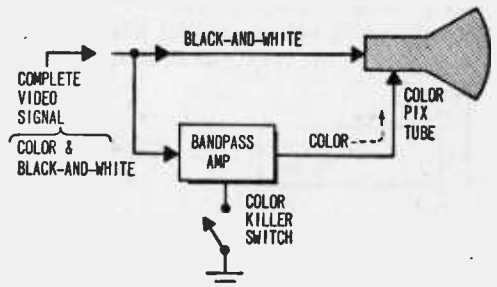

Fig. 1. Basic color killer turns color circuits on/off at appropriate time.
**The Human Killer.** Early color receivers required the viewer to be the color killer. The viewer selected a channel and visually decided whether it transmitted in color. If not, he flipped a switch and disabled any circuits likely to feed false color to the screen (Fig. 1). Though that block diagram is greatly simplified, it illustrates the point. All frequencies which make up the video signal—black-and-white plus color—arrive at the upper left. Frequencies for black-and-white travel to the picture tube. (These frequencies span a range up to about 3 MHz and represent picture brightness and detail.)
As shown in Fig. 1, there's a switch for turning the bandpass on and off. Now the viewer may completely disable the stage to block the interference path. Some hash can still reach the screen over the black-and-white path but it's far less annoying when it appears as old-fashioned, black-and-white snow. If it sneaks through the bandpass, though, it fills the screen with heinous multi-colored "confetti."